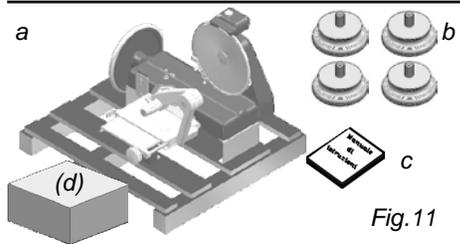

Fig.11
- a) the machine on a pallet (det. a Fig.11);
- b) 4 feet (det. b Fig.11);
- c) instruction booklet (det. c Fig.11);